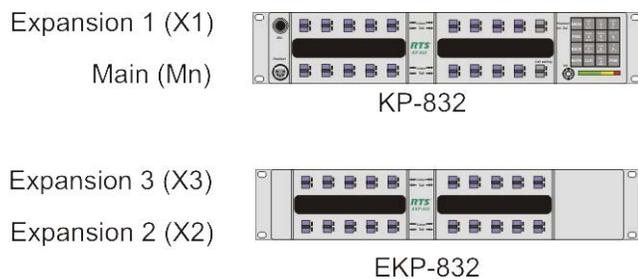

FIGURE 17. Setup Page Usage for the KP 832 and EKP 832
Currently, there are four (4) setup pages available for each keypanel. Each setup page defines a set of 16 talk and listen key assignments. Most RTS keypanels have a maximum of 16 keys, so one (1) setup page is typically assigned to the main keypanel, and is referred to as the Main setup page. Additional setup pages are assigned to any connected expansion panels, and are referred to as Expansion 1, Expansion 2, etc.). Since the KP-832 requires 2 setup pages, it uses the main page assignments and also one expansion page (Figure 17). The EKP-832 uses two (2) additional expansion pages.